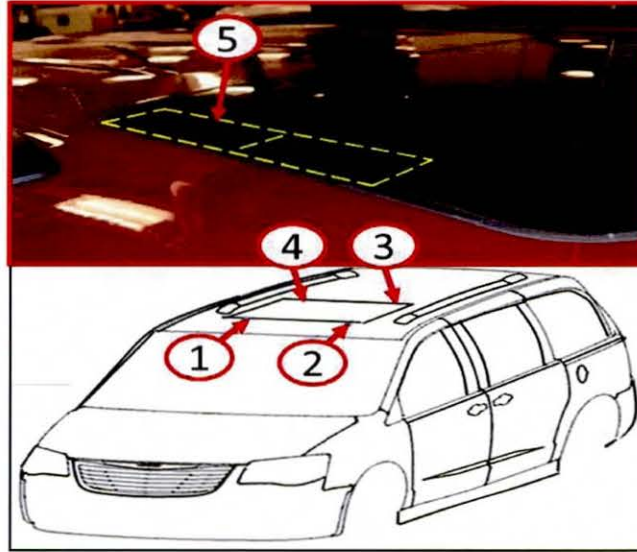

Fig. 1 Apply Tape
1. Adjust sunroof panel flushness along the front of the glass (1)&(2) to 2mm underflush. Adjust the rear of the sunroof glass panel (3)&(4) to zero/flush (Fig. 1).
2. Apply two pieces of felt/flock tape p/n 05019055AA to each side of the sunroof glass panel. Apply the tape end to end along the side edge of the sunroof glass panel (5) starting at the end of the rear corner radius running forward (Fig. 1).